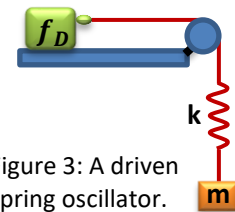

Figure 3: A driven spring oscillator.
When an oscillator is externally driven, its amplitude will become extremely large if the driving frequency is close to the natural frequency of the oscillator. Such peaking of amplitude is called **resonance**. In the lab, we will use the resonance phenomenon to probe the natural frequency of a spring oscillator. The setup is shown in Figure 3. We will tune frequency of the external driver (D) and observe the spring oscillator's response. At the maximum amplitude, the oscillator is on resonance, and the driving frequency f_D is equal to the spring's natural frequency,
3. Drape the cable over the pulley and make the vibrator horizontal such that the vibrator will drag the cable back and forth. The setup should look like Figs. 3 and 5.